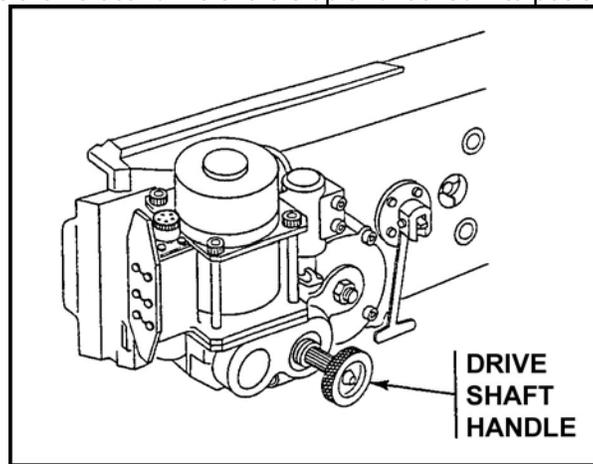

Figure 16. Vertical drive shaft handle.
- (b) Ensure the vertical drive shaft is up and locked into position (Figure 16).